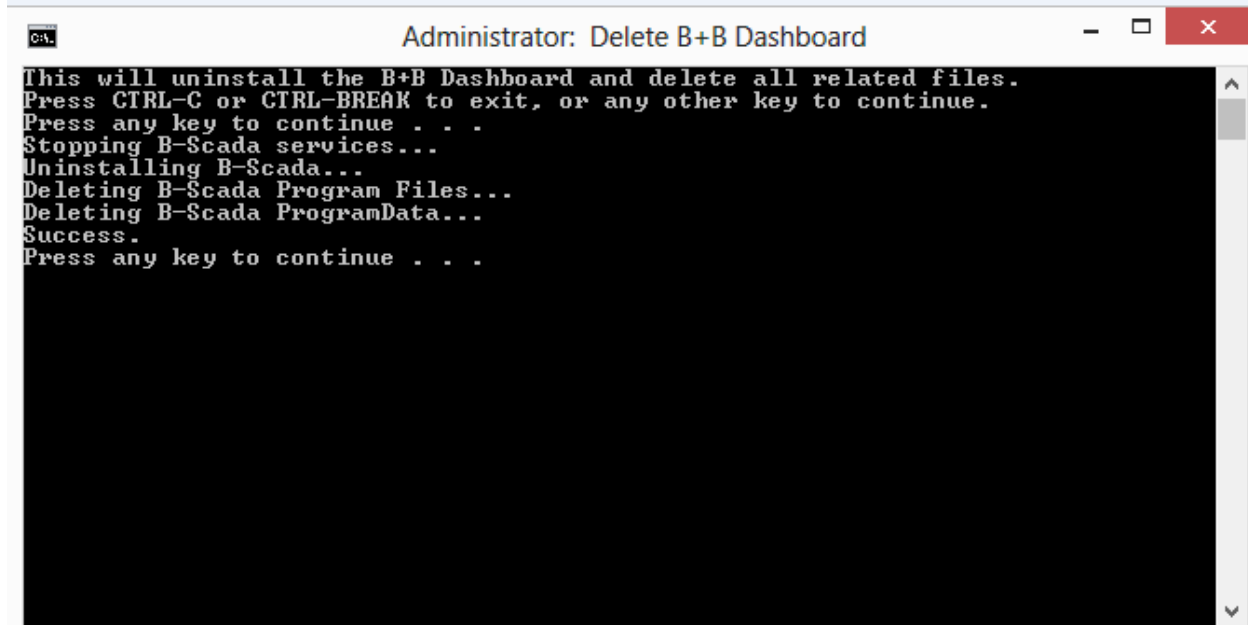

Figure 7: Uninstall Dashboard
6. See Figure 7, which shows the steps in which are part of the uninstall process.